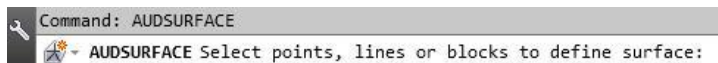

Figure 35: AUDSURFACE Command
- Create the surface by typing “AUDSURFACE” in the command line (Figure 35)